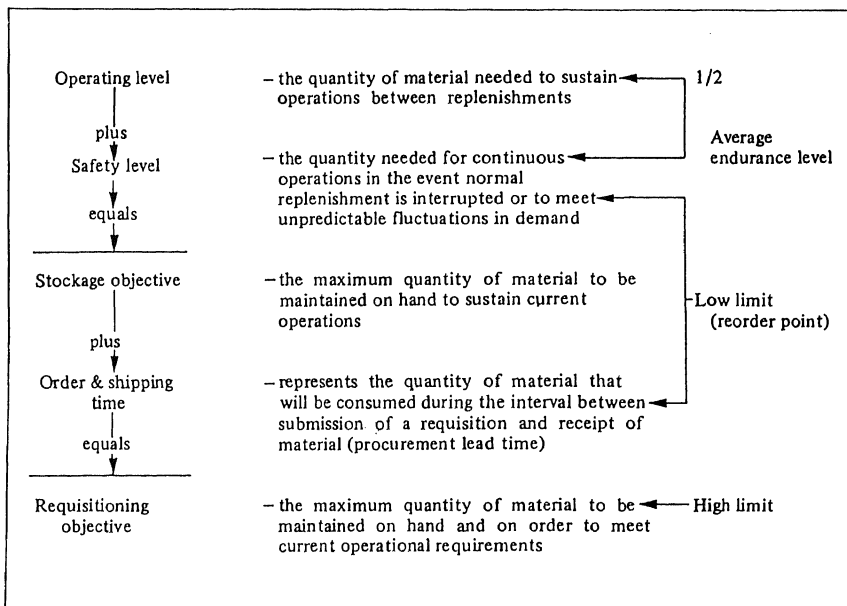

Figure 4-6.—Stockage objective for food items.
**STOCK LEVEL.**—The stock level or stockage objective for food items is the sum of the operating level plus the safety level in terms of days of supply. See figure 4-6 for stockage objectives.